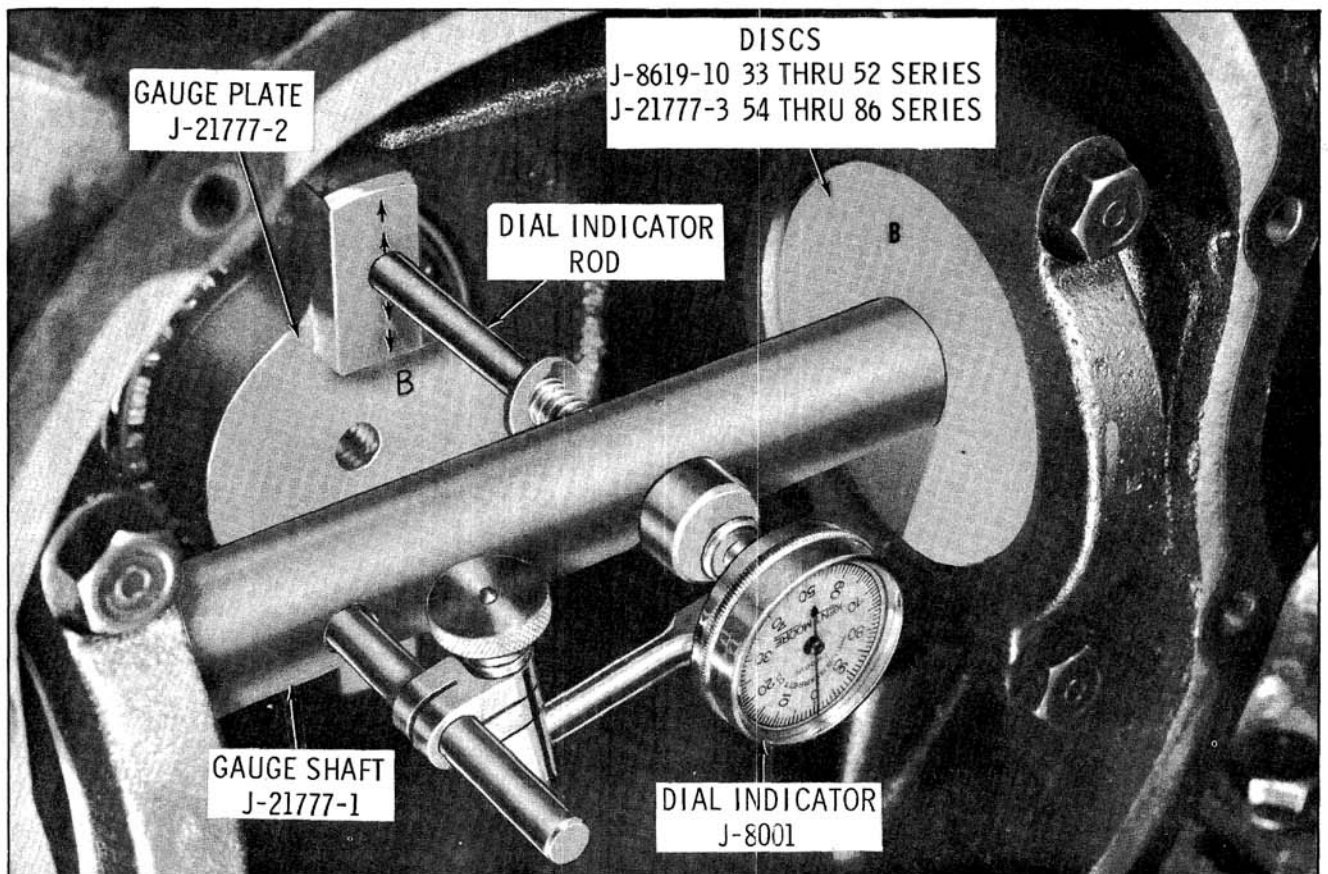

Fig. 10-27 Checking Pinion Depth
9. Position the gauge shaft assembly in the carrier so that the dial indicator contact rod is directly over the gauging area of the gauge block, and the discs seated fully in the side bearing bores. (Fig. 10-27)